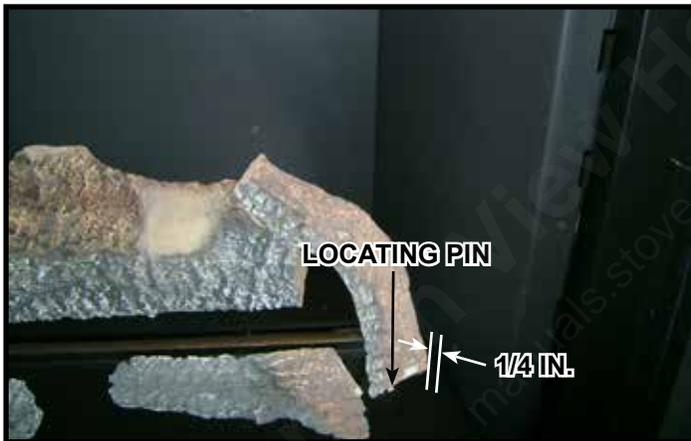

Figure 9. Log #3 (2nd of 2)
**Log #3 (2033-721):** Log #3 is used twice in this log set. Place one of the #3 logs on the left side of the firebox as shown in Figure 8. Position one end on the flat spot on the top of Log #1 and place the other against the locating pin on the basepan. There should be approx. a 1/4 inch gap between the end of the log and the firebox. The other Log #3 will be placed on the right in a position to mirror the first Log #3. Place it in position by placing one end on the flat of Log #1 and the other against the locating pin on the basepan. There should be approx. a 1/4 inch gap between the end of the log and the firebox. See Figure 9.